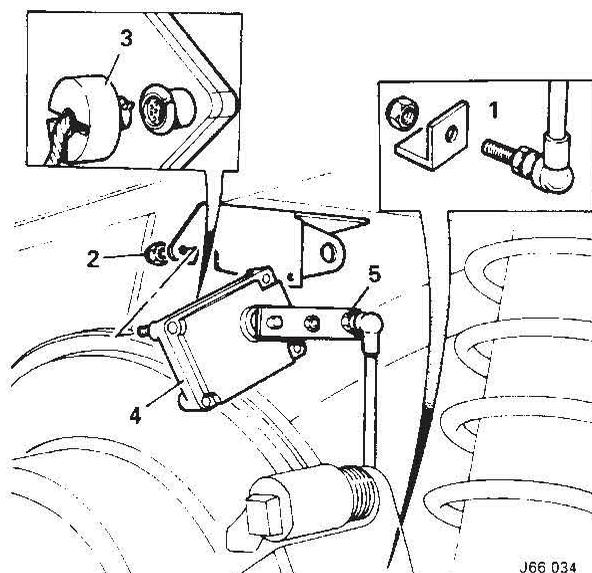

FIG 1.
3. Disconnect the sensor link rod from the suspension mounting position (1 Fig 1); remove the sensor securing bolts (2 Fig 1) and disconnect the multi pin plug (3 Fig 1). Remove the sensor (4 Fig 1).
4. Remove the nut securing the link rod to the sensor link arm (5 Fig 1). Fit the link rod to the new ride height sensor link arm sensor, part no. DBC 6768; fit the securing nut.